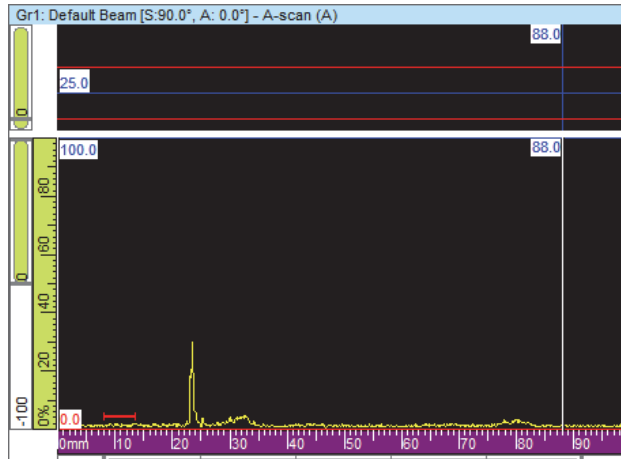

Figure 4-30 A-scan before adding the first TCG point
5. Position the probe to get well-defined echoes on the A-scan (Figure 4-30 on page 127).